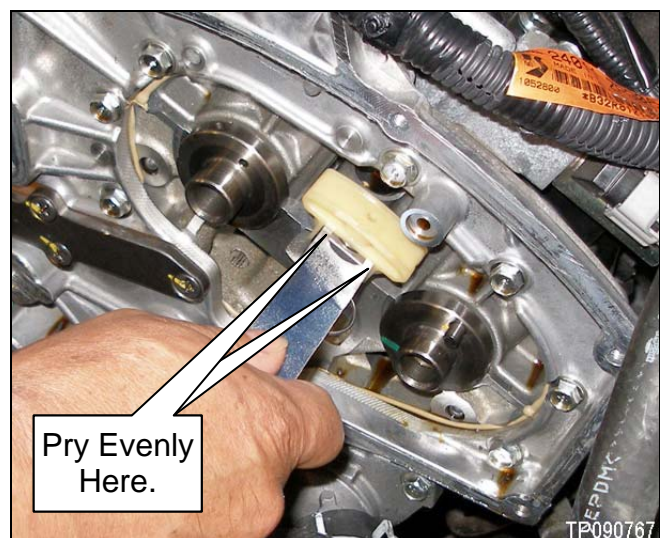

Figure 2
4. Remove the Secondary Timing Chain Tensioner Shoes (shoe) by evenly prying with a couple pocket screwdrivers or suitable tools where shown in Figure 2.